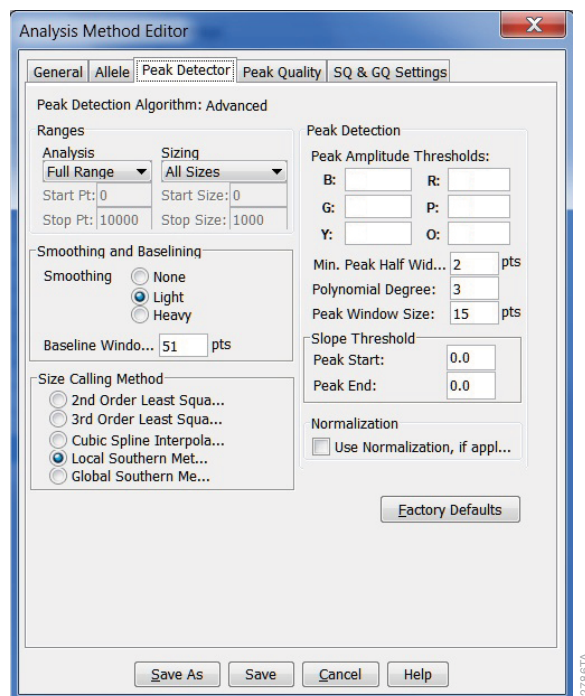

Figure 15. The GeneMapper® ID-X 'Peak Detector' tab.
- Select the 'Peak Detector' tab (Figure 15). You will need to optimize these settings. In-house validation should be performed.
9. Select the 'Peak Detector' tab (Figure 15). You will need to optimize these settings. In-house validation should be performed.